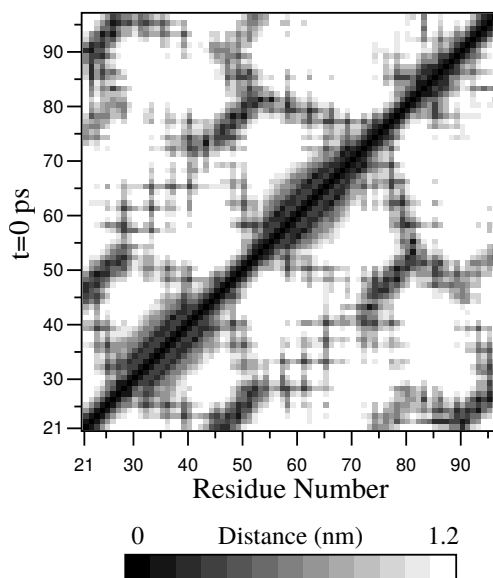

Fig. 5.55: A minimum distance matrix for a peptide *168* (page 514).
- To monitor the *minimum distances between amino acid residues* within a (protein) molecule, you can use the program *gmx mdmat* (page 110). This minimum distance between two residues A_i and A_j is defined as the smallest distance between any pair of atoms ($i \in A_i, j \in A_j$). The output is a symmetrical matrix of smallest distances between all residues. To visualize this matrix, you can use a program such as *xv*. If you want to view the axes and legend or if you want to print the matrix, you can convert it with *xpm2ps* (page 179) into a Postscript Fig. 5.55.